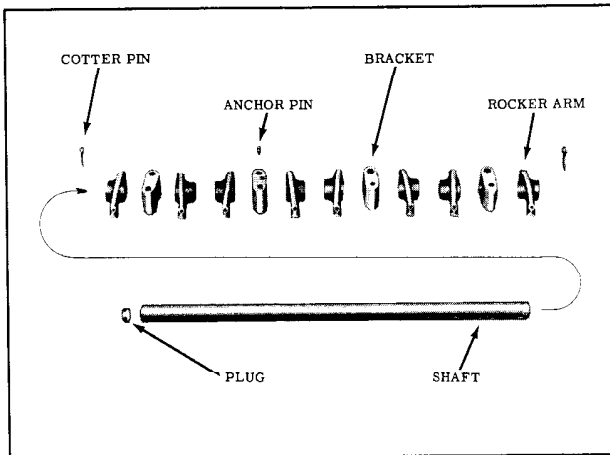

Fig. 8-5 Rocker Arm Assembly
2. Remove brackets and rocker arms from shaft. (Fig. 8-5)
3. Lubricate all frictional surfaces of the rocker arms, brackets and shaft, then assemble rocker arm shaft assembly as shown in Fig. 8-5.